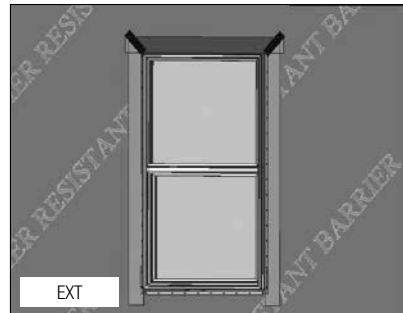

FIG. 14
- E) Tape the cut seams of the WRB. (Fig. 14)